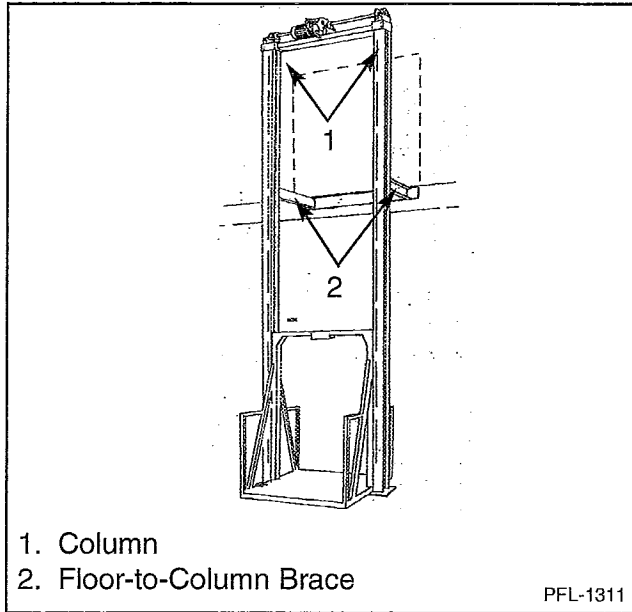

Figure 15
3. Plumb both columns in both directions using plumb bobs or level. Recheck spacing and lag or tack weld floor-to-column braces. Make sure there is no column twist. See Figure 15.